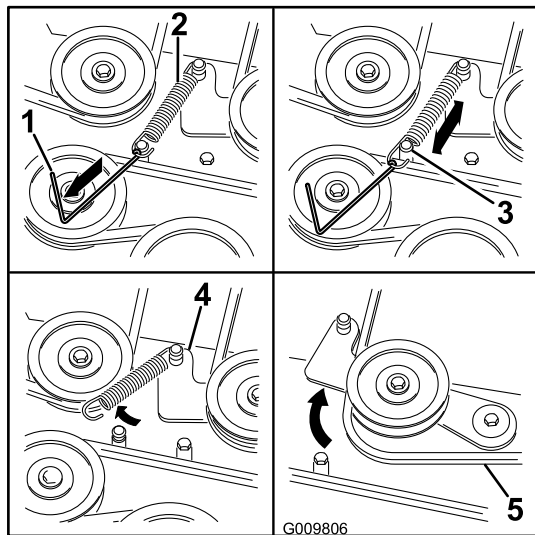

Figure 67
5. Using a spring removal tool, (Toro part no. 92-5771), remove the idler spring from the deck post to remove tension on the idler pulley (Figure 67).
8. Install the new belt around the mower pulleys and the clutch pulley under the engine (Figure 67).
9. Using a spring removal tool, (Toro part no. 92-5771), install the idler spring over the deck post and placing tension on the idler pulley and mower belt (Figure 67).